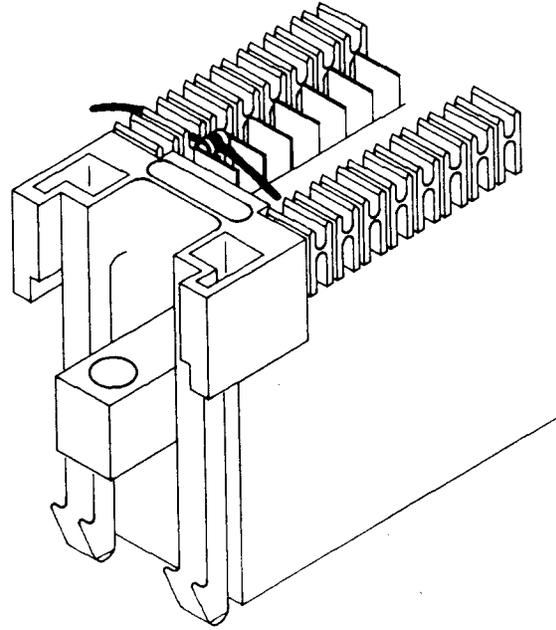

Fig. 11—Wire Inserted in 645042 Amp Connector
4.06 Advance wire approximately $\frac{1}{4}$ inch so that a clean area will contact the terminal as shown in Fig. 11.